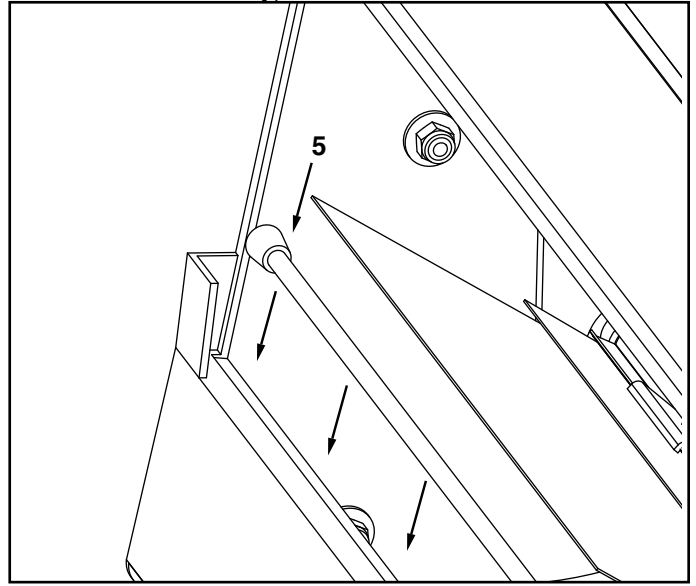

FIGURE 9
12. Place the lower hopper bag and bag rod (5) into the opening on the sweeper housing. See figure 9 (bag removed for clarity).